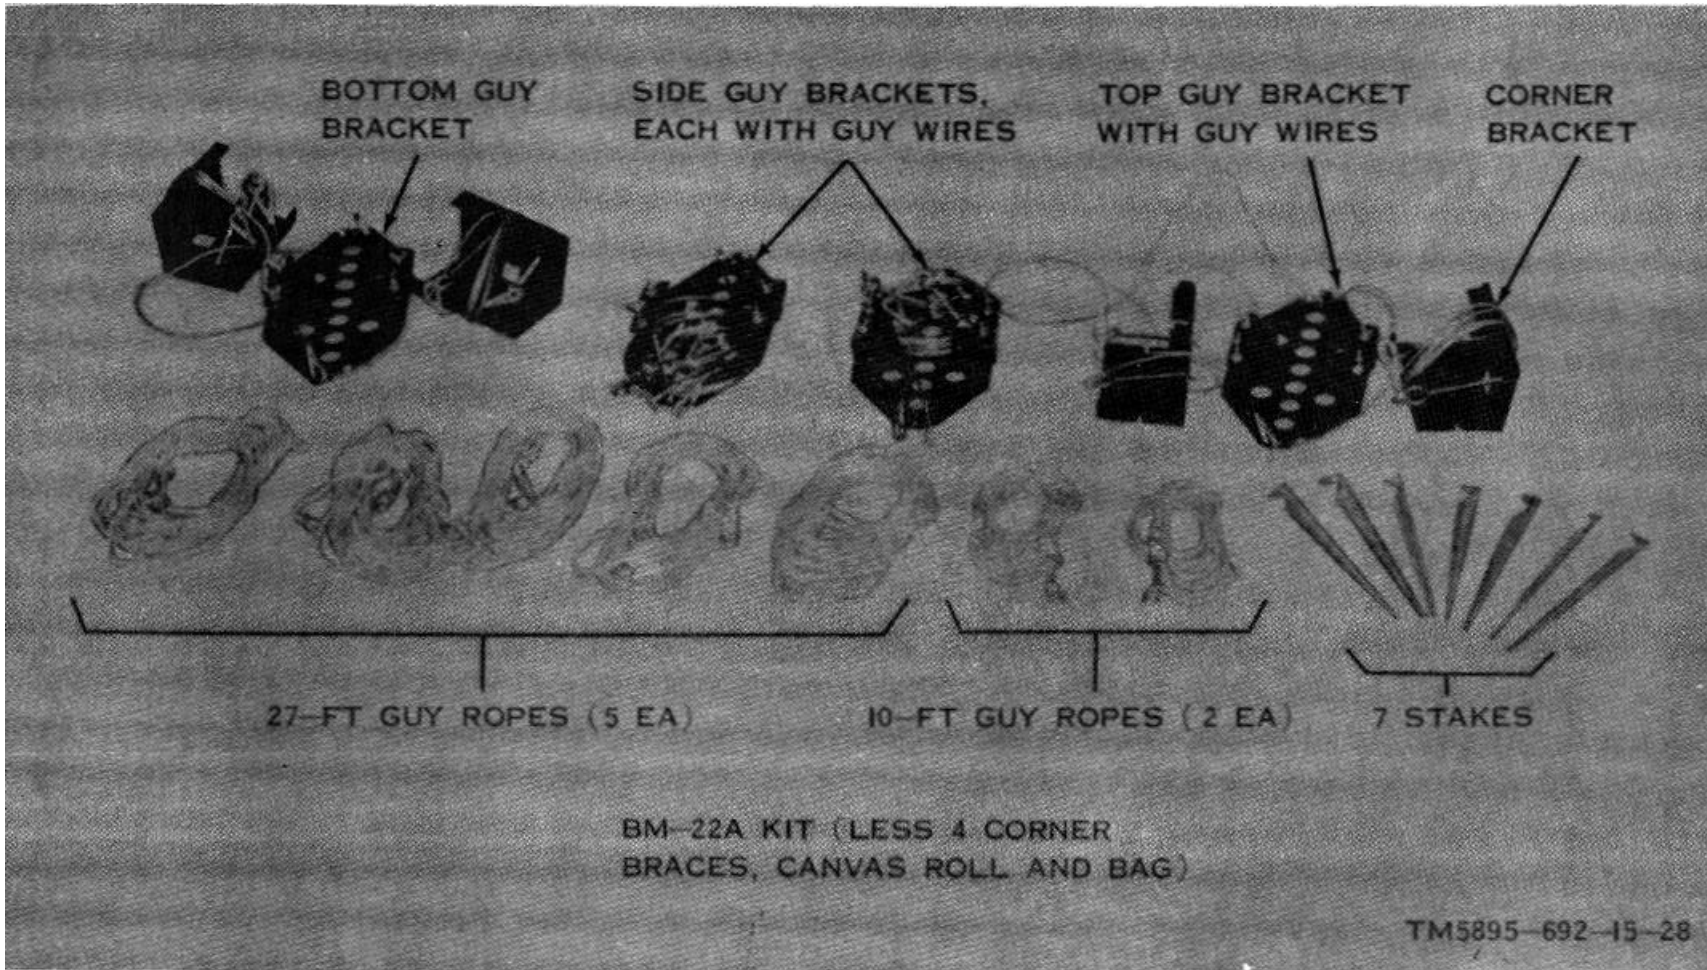

Figure 3-10. Parts of BM-22A kit, less bag and canvas roll with four corner braces.
includes a canvas bag with items packed in it (fig. 3-10) and a canvas roll with four corner braces (fig. 3-12). In the canvas bag are five long guy ropes (27 ft), two short guy ropes (10 ft), seven stakes, and four bracing assemblies (which include two guy brackets for mounting on the sides of the BM-22A framework, and two guy brackets for mounting on the top and bottom of the BM-22A framework).
(4) Install the top and side bracing assemblies from the BM-22A kit (fig. 3-10) on the assembled BM-22A frame as follows: